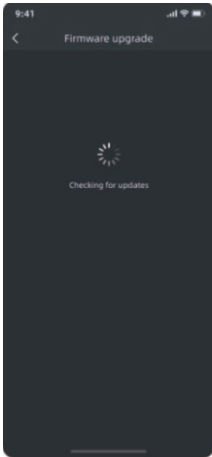

Figure 2
- 2)Figure 2: Check if there is a new firmware version available.